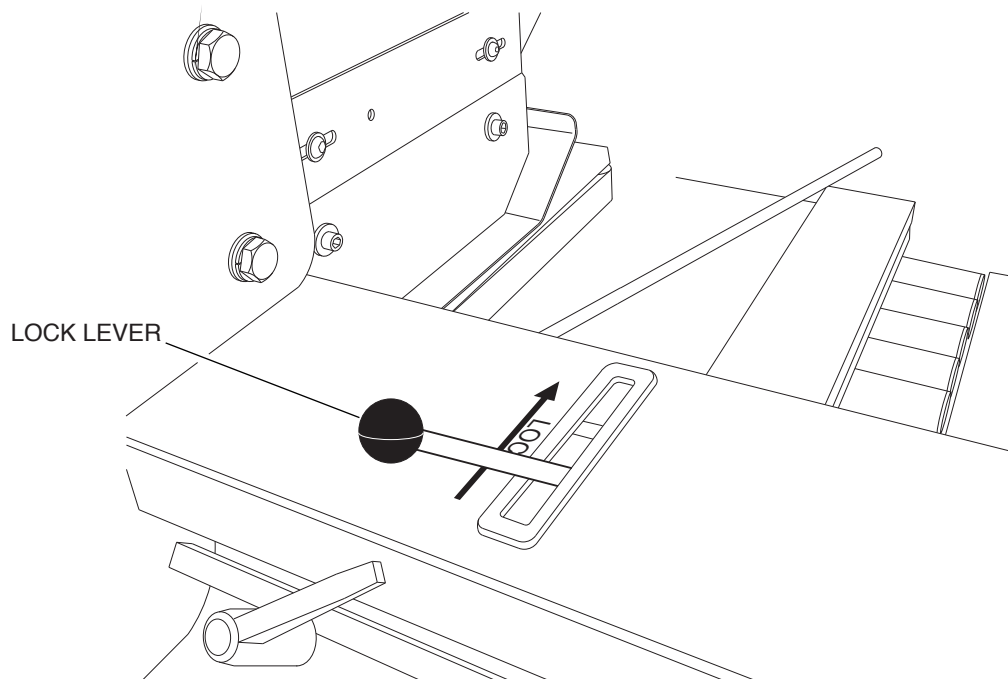

Figure 10
- 2. Unlock the bridge using the bridge lock lever (figure 10).**
7. Lock the bridge using the bridge lock lever (figure 10). Make sure to hold the bridge down while locking it.